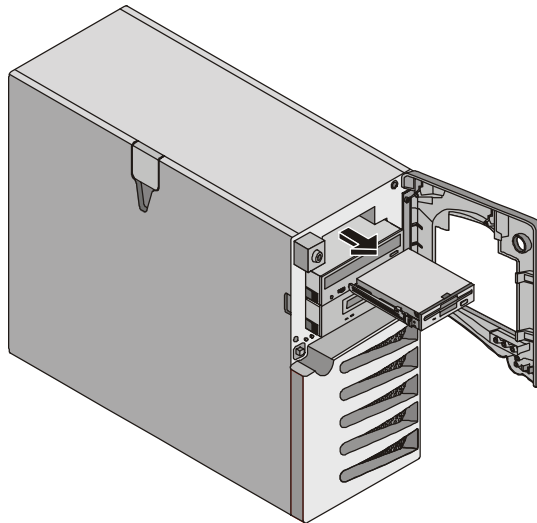
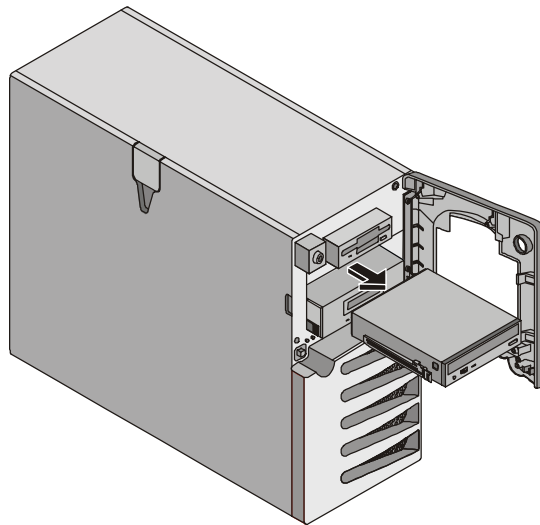

Figure 3-5. Removing Flexible Disk Drive
Figure 3-6. Removing a Hard Disk Drive
The flexible disk drive and CD-ROM drive, which are standard on all models of the HP Server tc3100, occupy shelves 8 and 7 respectively. See Figure 3-5 and Figure 3-6.
6. Hold the disk by its sides and gently slide the disk from the chassis. See Figure 3-5.
5. Press the two latches of the drive inward and, holding the disk by its sides, gently slide the drive from the chassis. See Figure 3-6.